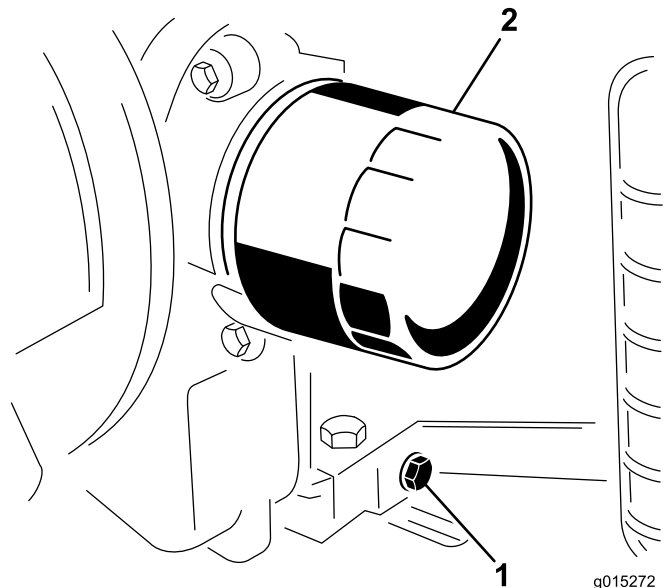

Figure 19
4. Place a pan below the oil drain. Remove the oil drain plug to allow the oil to drain (Figure 19).